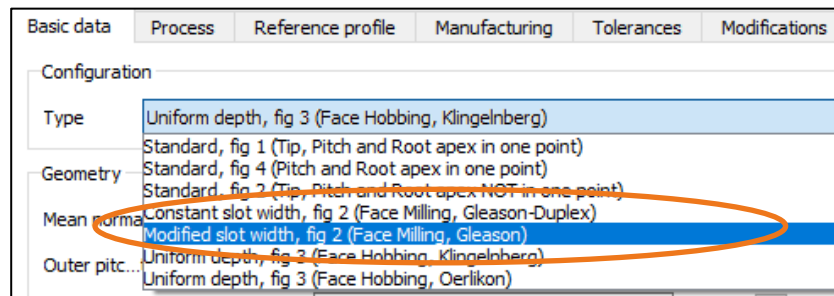

Figure 14. Selecting «Modified slot width» for 5-cut bevel gears
1. In «**Basic data**» → «**Type**» select the «**Modified slot width**» type (see Figure 14). The pinion space width changes due to the different machine settings for each flank.